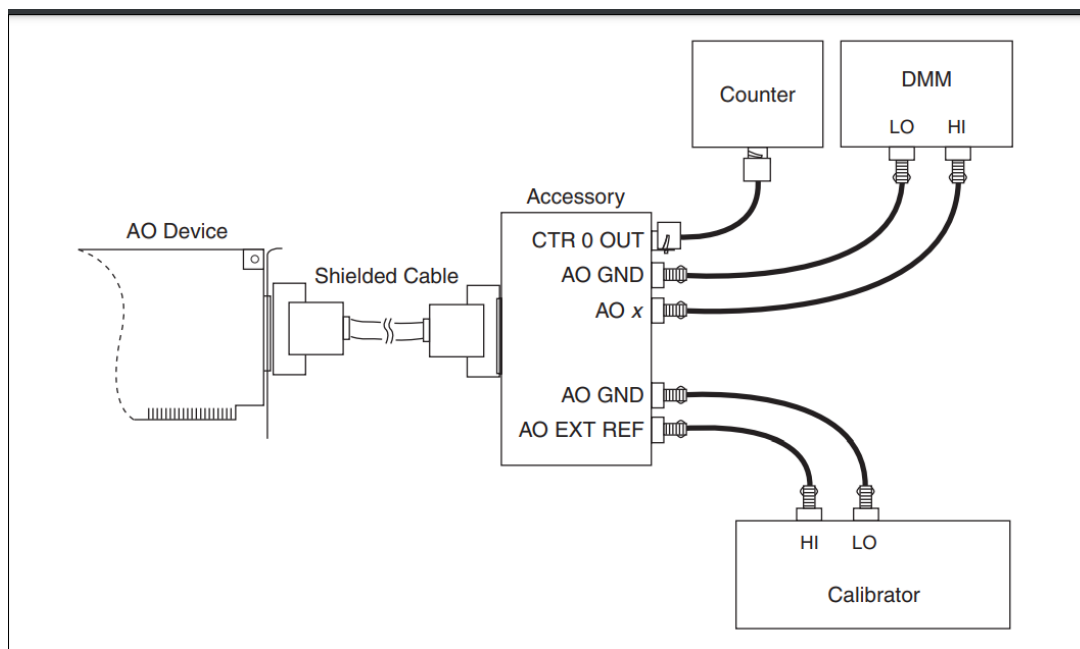

Figure 1. Calibration Connections
- Follow the specific DMM, calibrator, and counter connections as described in the Calibration Process section and shown in Figure 1.
Figure 1 shows the test equipment you need to calibrate your device. The specific DMM, calibrator, and counter connections are described in the Calibration Process section.